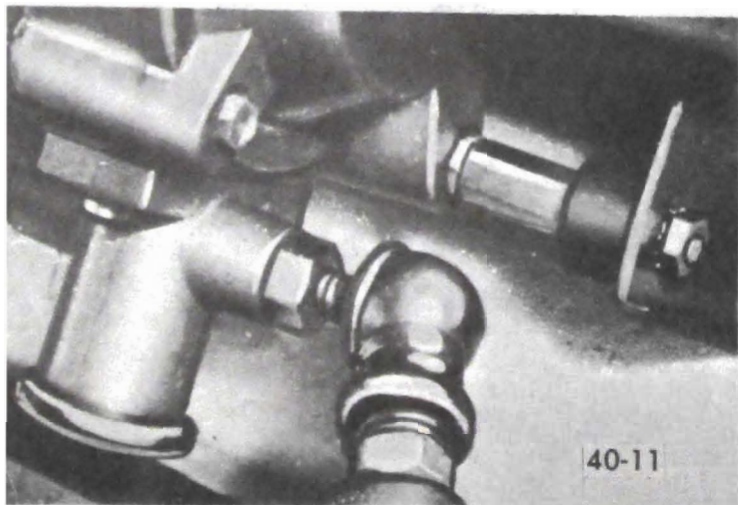

Figure 40-33 - Filling System Through Service Valve
3. Lower car and inflate system through service valve on compression. See Figure 40-33. Load rear